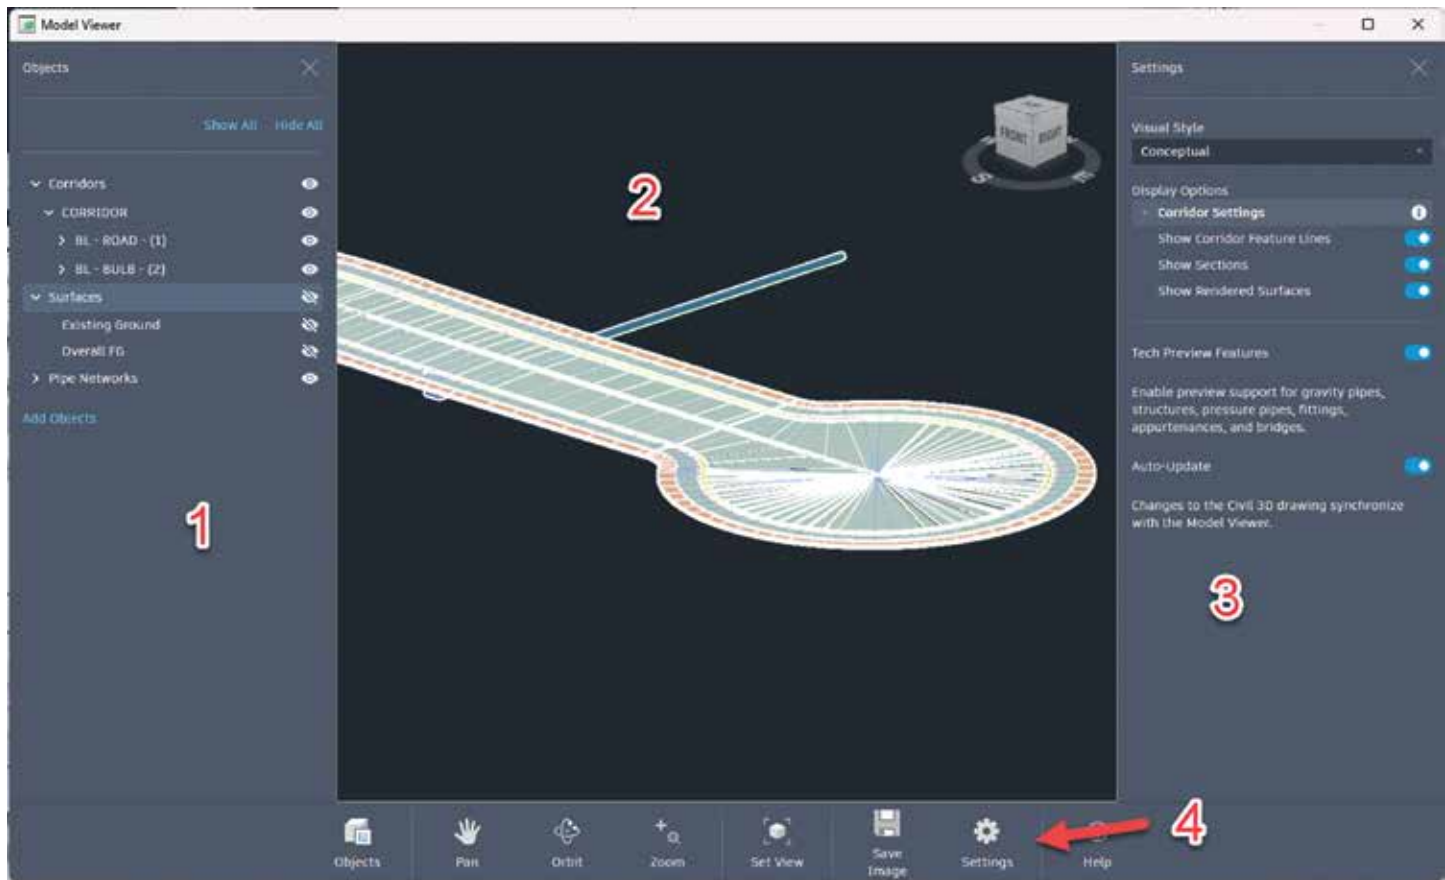

Figure 2
4. Viewer Toolbar. Enables navigation and perspective views in the 3D Canvas. You can pan, orbit, zoom, and take screenshots of the current view. See Figure 2.